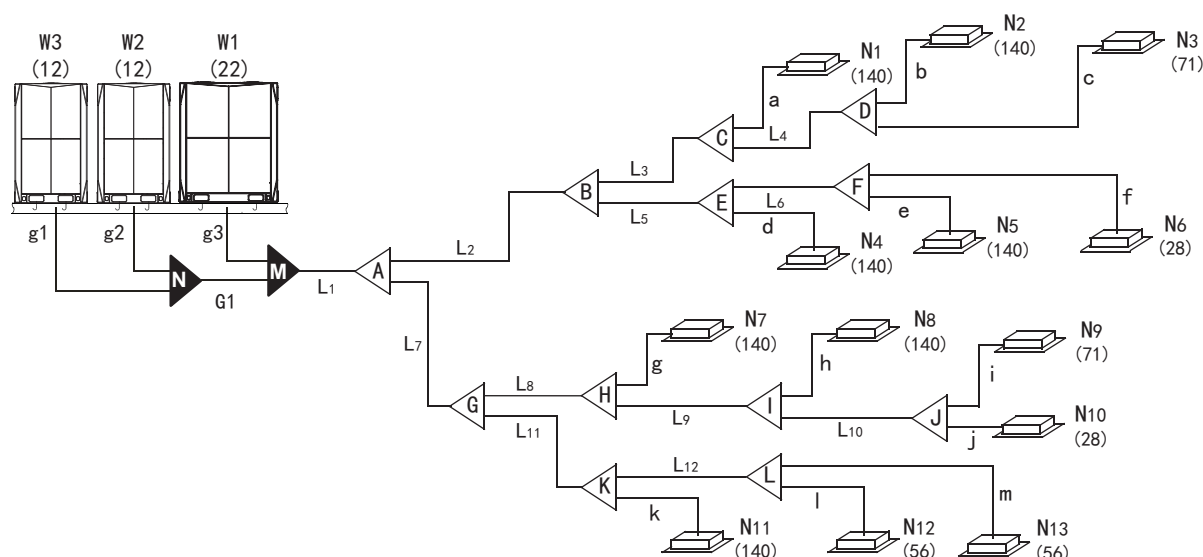

Fig.5-3
e.x.1: Refer to Fig.5-3, the capacity of downstream units to L4 is  $140+71=211$ , the gas pipe for L2 is Φ19.1, liquid pipe is Φ9.5.